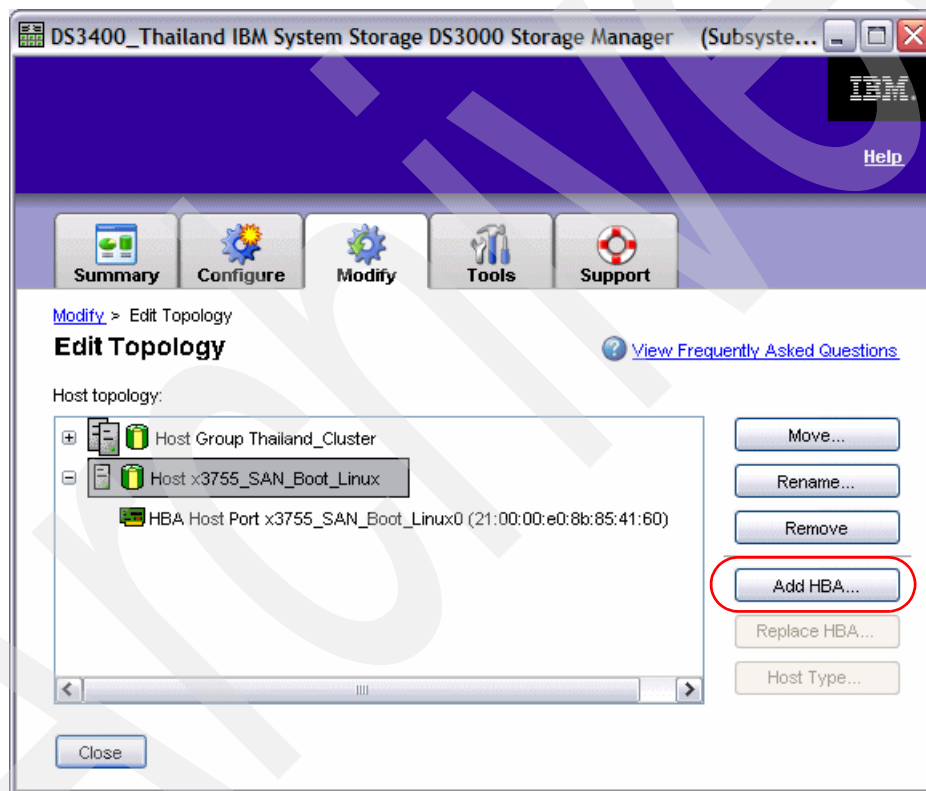

Figure 26-24 Edit Topology - Add HBA
1. In the Storage Manager Modify tab, click **Edit Topology**. Click **Add HBA** to specify the new host port, as shown in Figure 26-24.